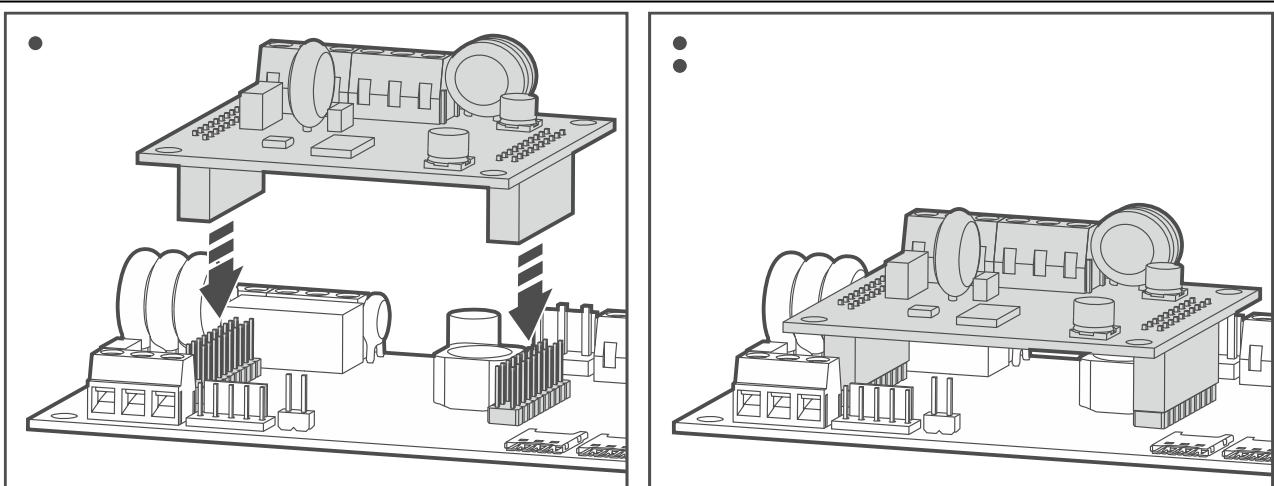

Fig. 10. Installing the GSM-X-PSTN module.
3. Install the GSM-X-PSTN module in the connectors on the GSM-X Plus module electronics board (Fig. 10).